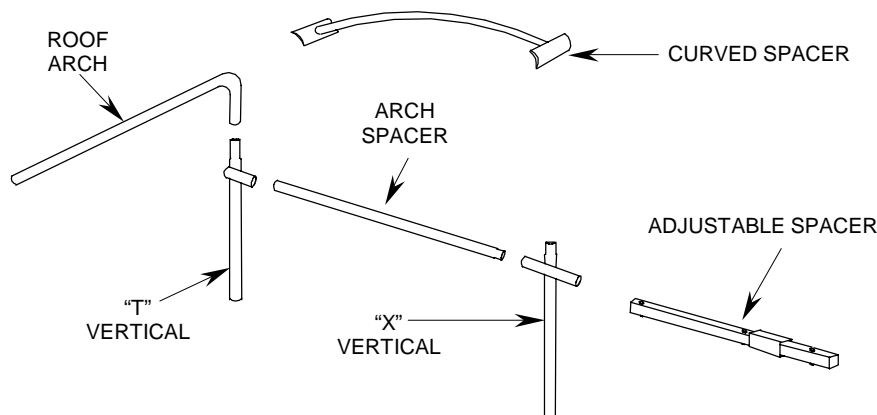

Figure 5. Shelter Frame Components.
2. Figure 5 and Table 1 below identify the frame components and the quantity of each. Unzip the bags as necessary to locate the bag containing the two curved spacers.